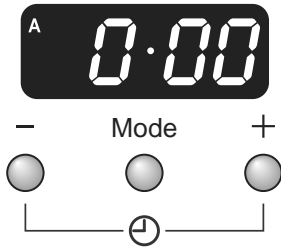
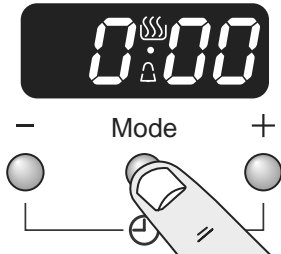

Fig.2-16
Fig.2-17
1. Press the mode [Mode] button once (Fig.2-16). The bell symbol [🔔] will flash on the display. Select the desired countdown from 00:01h to 23:59h using the [+] or [-] buttons (Fig.2-17). The countdown will automatically begin and the [🔔] symbol will show in the display.